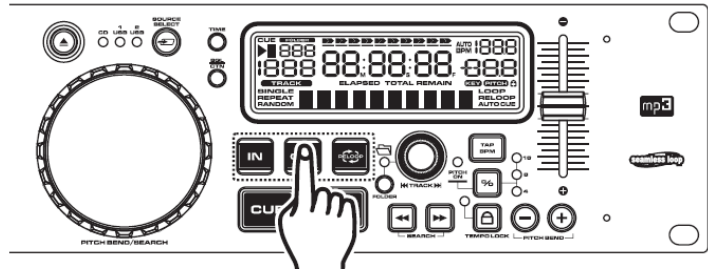

Figure 18
Press the OUT button **(11)** to set the ending point for your LOOP **(Figure 18)**. The IN and OUT buttons will stay lit indicating a LOOP is playing. Press the OUT button again to cancel the Loop.
Press the OUT button **(11)** again when you reach your new ending point **(Figure 18)**.
- **For a shorter Loop:** Press the OUT button **(11)** at sooner point in the track **(Figure 18)**.
- **For a longer Loop:** Press the OUT button **(11)** at later point in the track **(Figure 18)**.